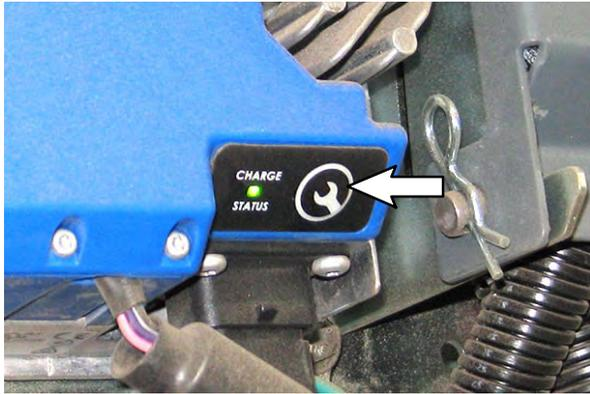
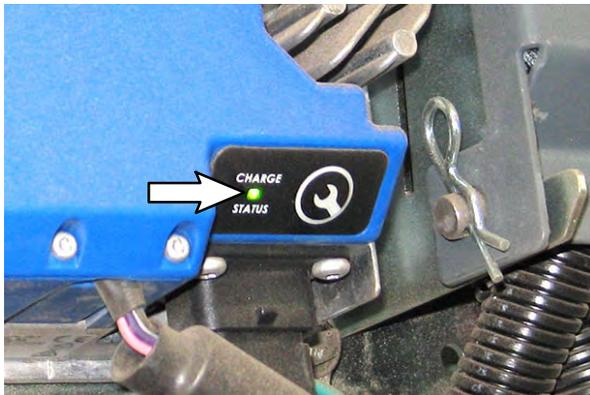

FIG. 67
FIG. 68
67. Release the Charger Profile Selection Button after battery charger has entered the profile selection mode. (Fig. 67)
68. The flashing red and amber sequence identifies the profile currently in use in the same flashing pattern as the current profile. This sequence is repeated four times in the profile selection mode rather than twice as in the current profile setting. (Fig. 68)
69. Press the Charger Profile Selection Button (Fig. 67) while in the profile selection mode (4 flashing sequence), to display the next available profile. The flashing pattern for the next available profile will begin a new sequence flashed four times (Fig. 68).
70. Press the Charger Profile Selection Button (Fig. 67) to locate the 029 LITHIUM, INVENTUS POWER profile and start the four flashing sequence of that profile. (Fig. 68)
71. Press and hold the Charger Profile Selection Button (Fig. 67) for seven seconds to select the desired profile. The LED changes red and after the seven seconds the new profile sequence is displayed in green (repeated twice) (Fig. 68).
72. Press the Charger Profile Selection Button to confirm the desired profile has been selected. (Fig. 68)
73. Connect the battery charger (26) to the lithium-ion battery charging cable to begin charging the batteries. Refer to Operators Manual for battery charging instructions.